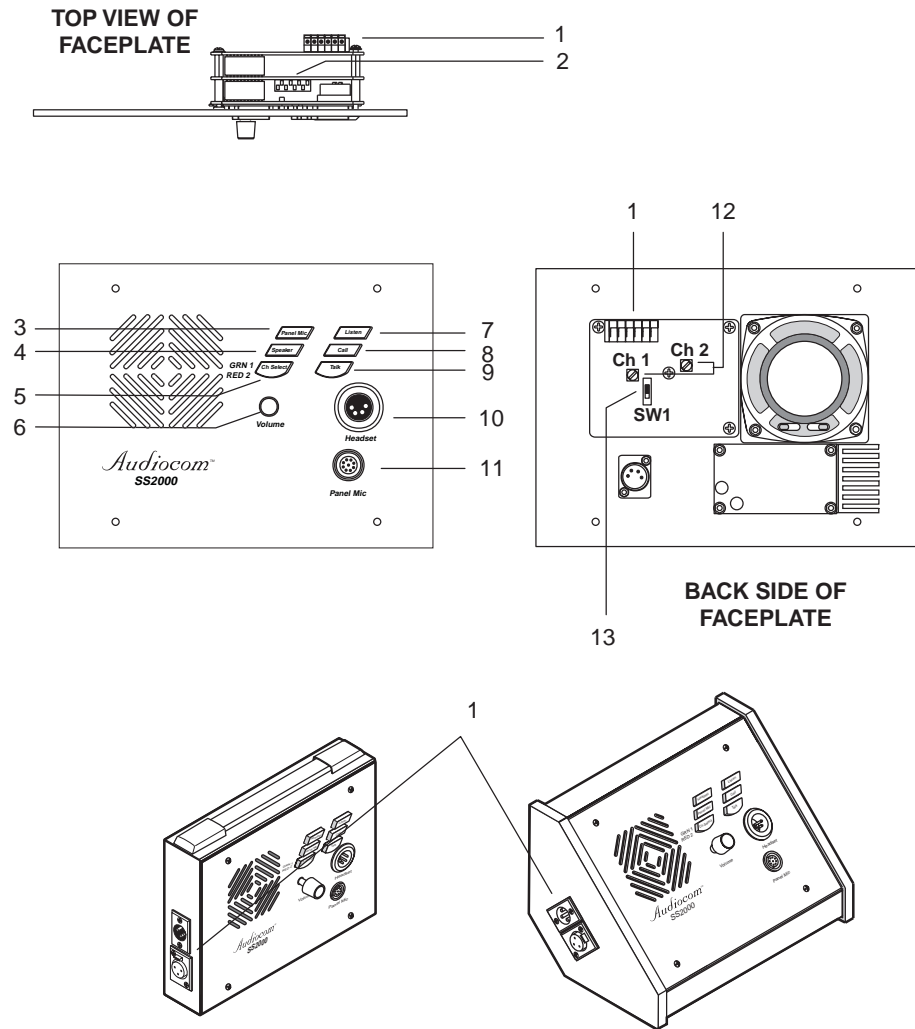

Figure 2. Reference view for controls, indicators and configuration switches. (The numbered items refer to the features list.)
Before making connections, read the configuration notes that follow, and make sure that all internal controls are properly set for your intended usage. If you need to access the internal controls, remove the four screws on the front that secure the intercom station faceplate to the mounting box, then lift out the faceplate. Figure 2 shows the locations of the internal controls.
DIP Switches (Figure 2, item 2)
For Audiocom setup, leave this switch in the open position, and also leave the Balanced / Unbalanced switch (Figure 2, item 13) in the Balanced position. For Clear-Com setup, set DIP switch 2 to the closed position and set the Balanced / Unbalanced switch in the Unbalanced position.
Balanced/Unbalanced Switch (Figure 2, item 13)
Sidetone Trimmers (Figure 2, item 12)